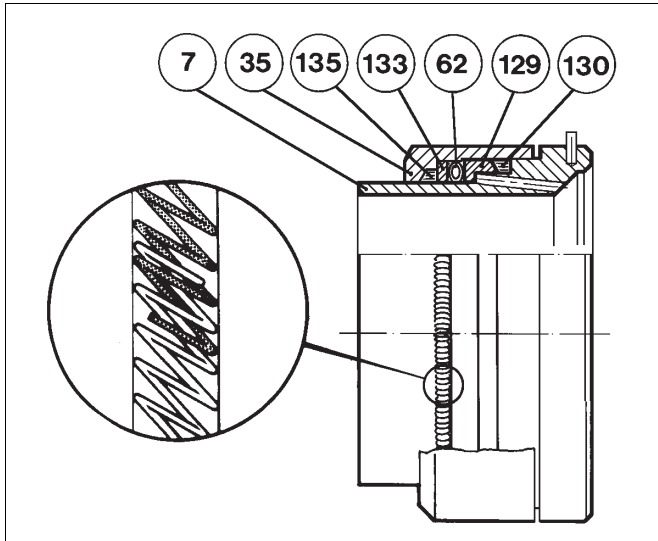

Fig. 19 E1-seat
- Lubricate the O-ring (63) with silicone grease before installation.
- Install the O-ring (63).
- Install the support ring (64) into its groove. Cut the ribbon ends diagonally to make a flexible seam.
- Only in the Fire Safe version: Install the back seal (130) and the ring (129). See Fig. 19.
- Install the spring (62) into the seat body (7).
- Install the spring support ring (131).